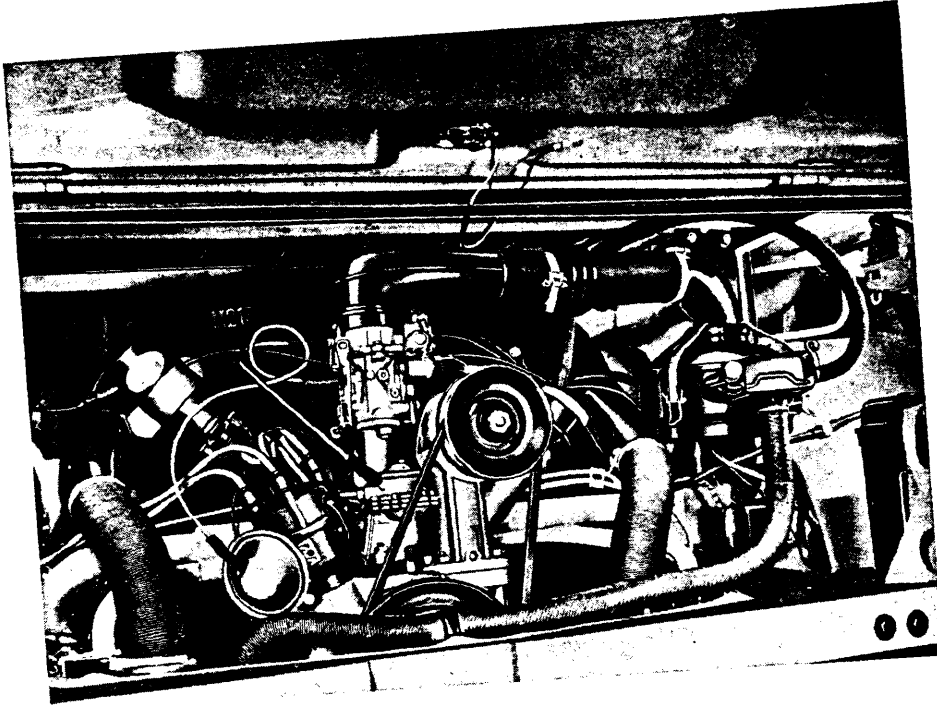
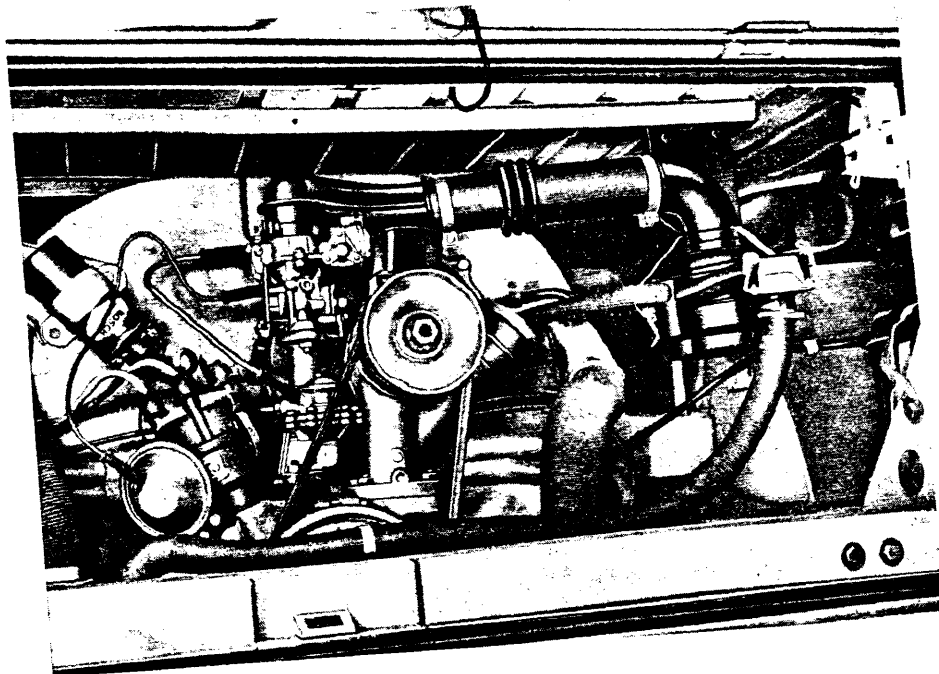

Fig. 1a
Fig. 1b
- b - The oil breather hose should be relocated as shown in Fig. 1a or Fig. 1b according to the position of the fitting on the oil bath air cleaner.